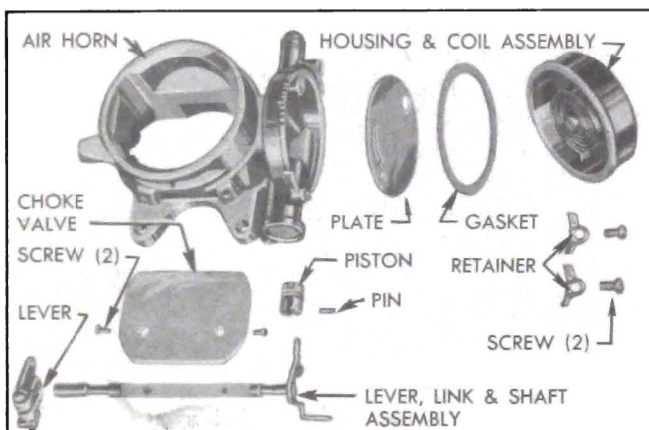

Figure 3-27—Air Horn and Climatic Control—Disassembled
4. Remove thermostatic housing and coil assembly, gasket, and baffle plate from air horn. See figure 3-27.
6. Rotate shaft to disengage piston from its cylinder. Remove choke shaft and lever assembly with piston attached. Remove piston pin and piston from link. See figure 3-27.
4. Remove dust cover. Rotate eyes of metering rods off pins on vacuumer piston link and lift rods out, using care to avoid bending them. See figure 3-27.